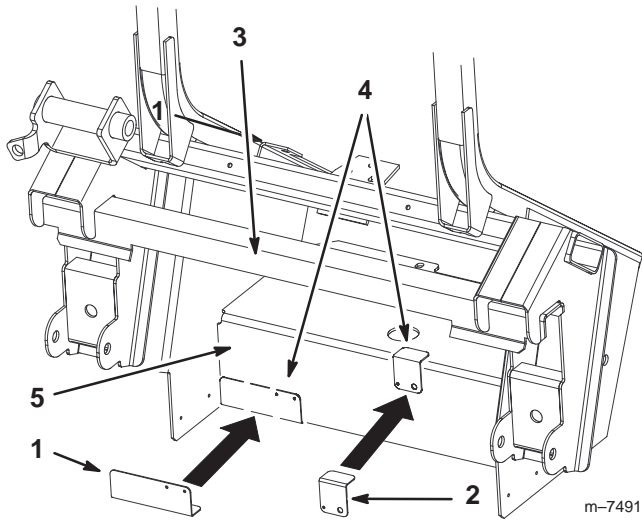

Figure 15
5. Place the tensioner bracket template flush against the wall and bottom of the bagger bracket and tight against the side of the bagger bracket (Fig. 15).
6. Align the eyebolt template with the existing hole in the bagger frame (Fig. 15).
Note: Make sure the templates are tight against the bagger frame (Fig. 15).